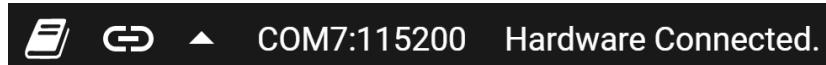

Figure 3-2. Hardware Connected
2. With the EVM plugged in, after launching the GUI, close the README.md file page to initiate the connection. If successful, "Hardware Connected" should be visible near the bottom left corner of the GUI as shown in Figure 3-2.